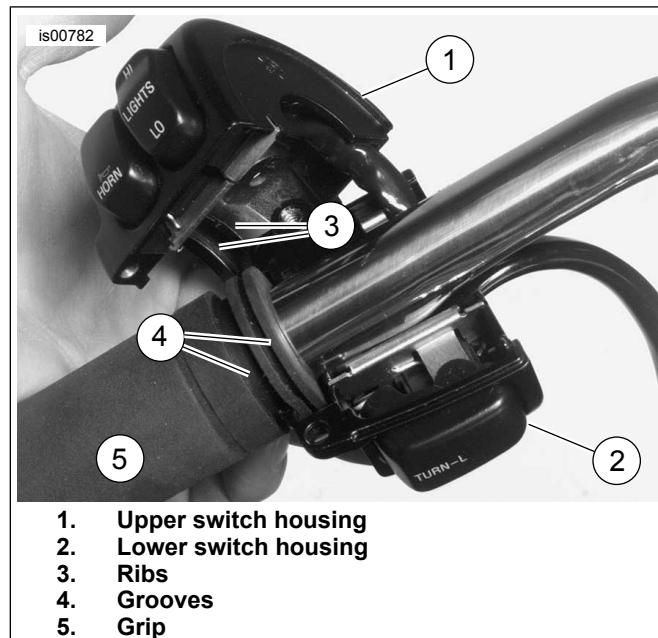

Figure 14. Left Handlebar Switch Housings
- See Figure 14. Place upper (1) and lower (2) switch housings on handlebar. Be sure that ribs (3) on outboard side of both switch housings fit in grooves (4) molded into grip (5).